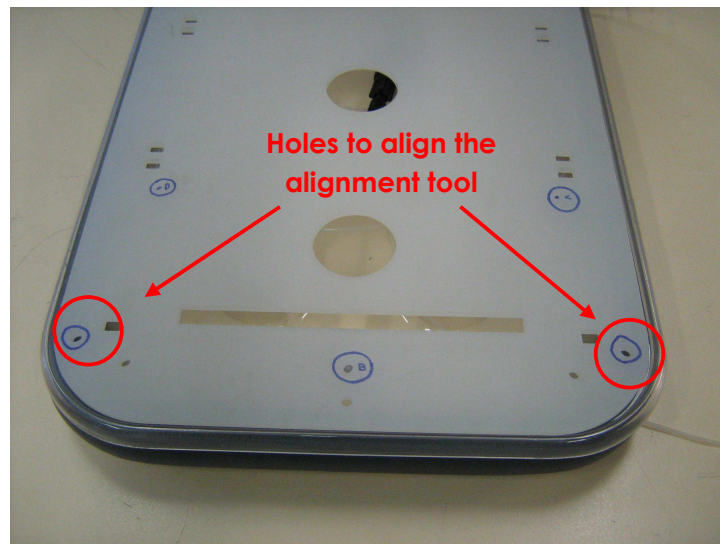
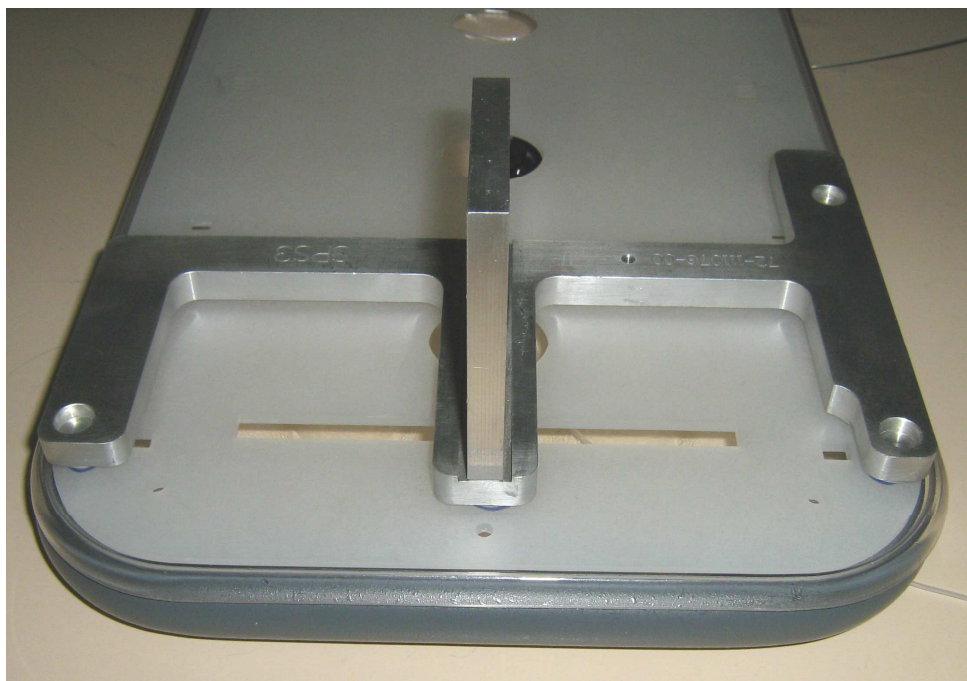

Figure 14: Alignment holes on sample tray
Figure 15: Alignment Tool Position in the Tray for B Point Calibration
- Locate the holes in the front side of the fraction collector rack holder tray (Figure 14) and move the alignment tool in such a way that the front pointy feet are now in the second set of holes shown in Figure 14. Once the alignment tool is positioned, it should look like Figure 15.